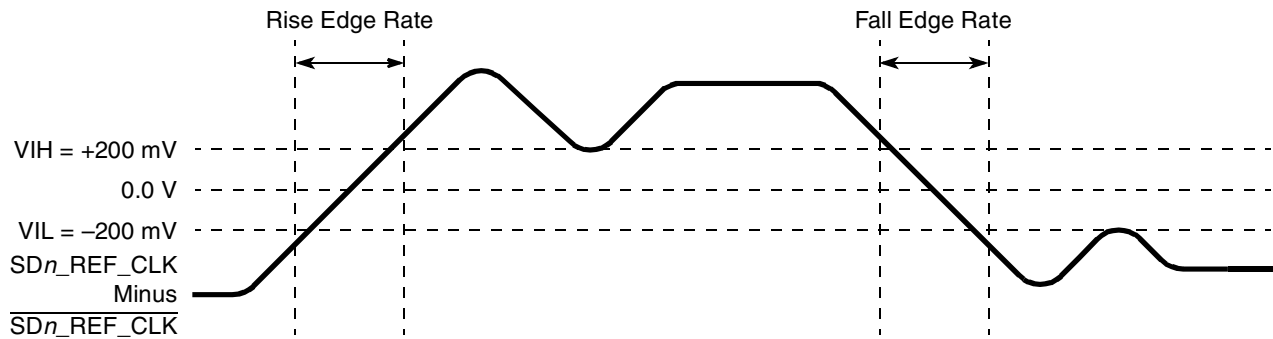

Figure 60. Differential Measurement Points for Rise and Fall Time
The differential waveform is constructed by subtracting the inverting signal ($\overline{SDn_TX}$, for example) from the non-inverting signal (SDn_TX , for example) within a differential pair. There is only one signal trace curve in a differential waveform. The voltage represented in the differential waveform is not referenced to ground. Refer to Figure 60 as an example for differential waveform.
3. Measured from -200 mV to +200 mV on the differential waveform (derived from $\overline{SDn_REF_CLK}$ minus $\overline{SDn_REF_CLK}$). The signal must be monotonic through the measurement region for rise and fall time. The 400 mV measurement window is centered on the differential zero crossing. See Figure 60.